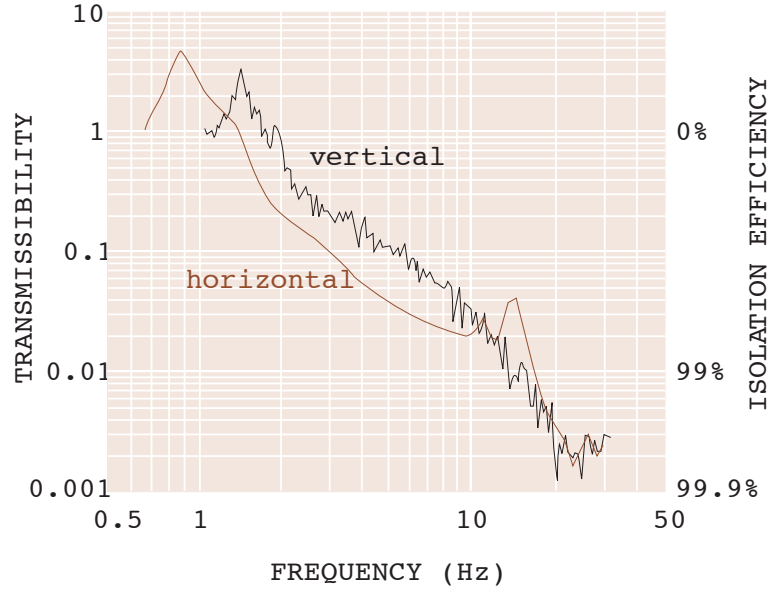

Figure 7: Frequency response function of isolation table
- (b) Figure 7 shows the frequency response function of an isolation table made by Engineer X 's competitor. If the mass of the isolation table is 1000 kg, determine the stiffness k and the viscous damping factor ζ needed to match the **vertical** performance in Fig. 7.
- (c) How many dB does $|G(\omega)|$ roll off in Fig. 7 from 2 Hz to 10 Hz?